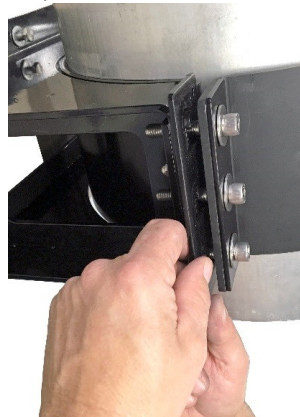

Figure 5-12 Remove Shim
- ii. Pull out the shim (Figure 5-12).